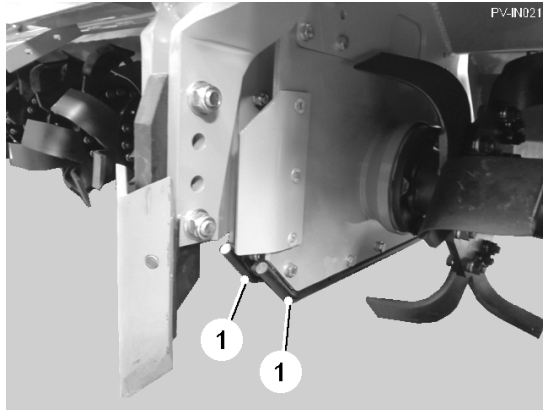
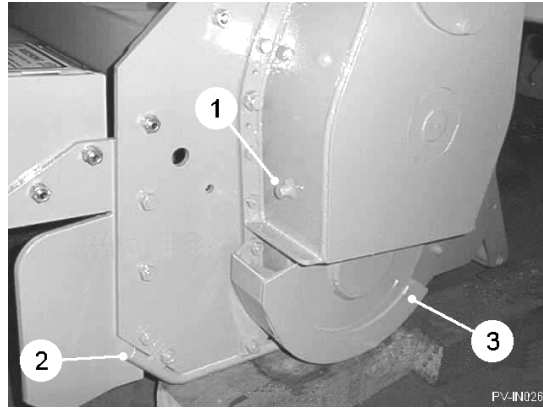

Fig. 15
Fig. 16
The side drive case oil levels are checked by removing the level plugs (item 1, fig. 16). Oil level should be to the bottom of the hole with the machine level.
The replaceable wear strips (item 1, fig. 15) and (item 2, fig. 16) are fitted to protect the front and bottom edges of the side plates. These should be replaced when worn as they help to prevent damage to the main rotor bearing housings.
The wear plates (item 3, fig. 16) are fitted to protect the side drive gear cases. Failure to keep these in place and in good condition will result in major damage to the drive assembly.